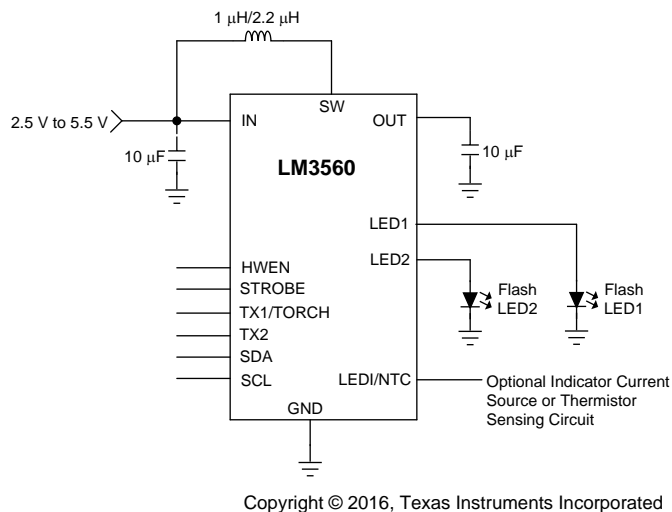

Figure 41. LM3560 Typical Application
Choosing the correct size and type of input capacitor helps minimize the input voltage ripple caused by the switching of the LM3560's boost converter, and reduces noise on the boost converters input terminal that can feed through and disrupt internal analog signals. In Figure 41 a 10-μF ceramic input capacitor works well. It is important to place the input capacitor as close as possible to the input (IN) pins of the LM3560 device. This reduces the series resistance and inductance that can inject noise into the device due to the input switching currents. Table 20 lists various input capacitors that are recommended for use with the LM3560.